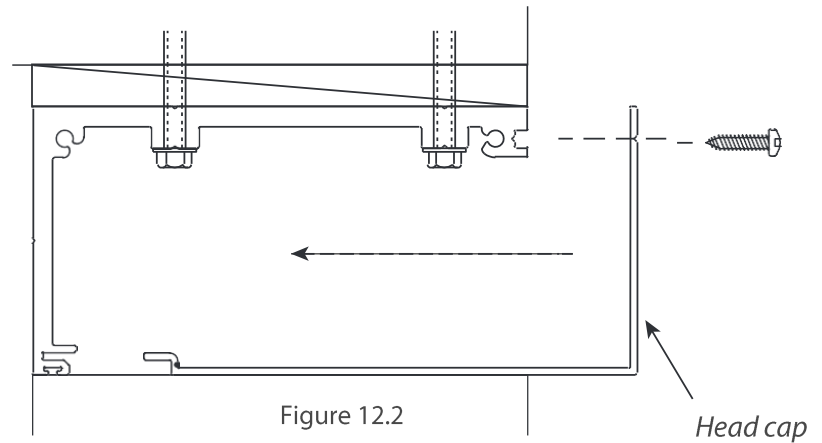

Figure 12.2
- A. Make sure the door is completely closed, then measure the height of the sill gasket carrier to the floor right, left and center. (Figure 12.2)